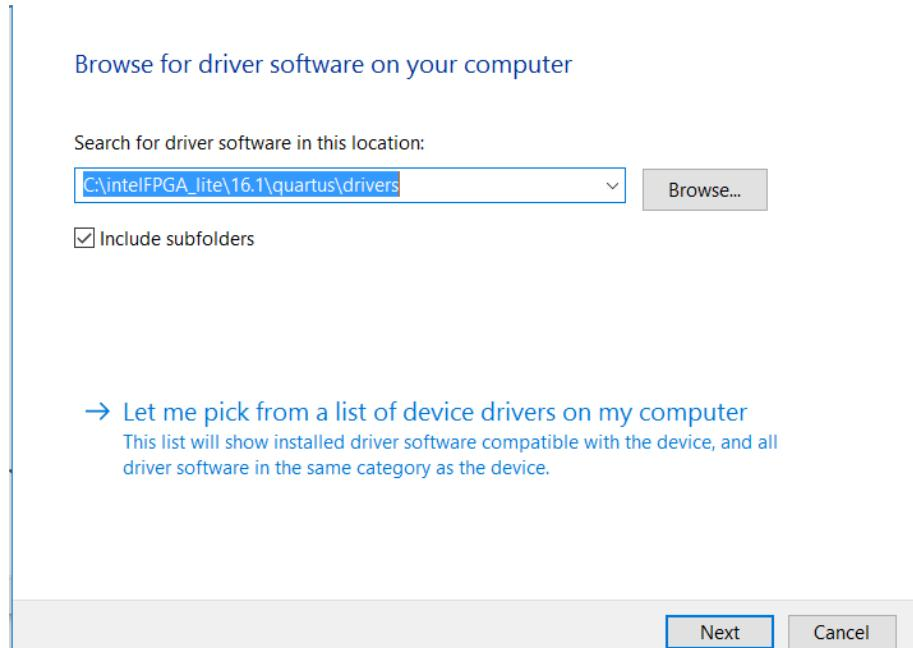

Figure 41: Directory Containing USB Blaster Drivers
7. Navigate to the path shown in Figure 41